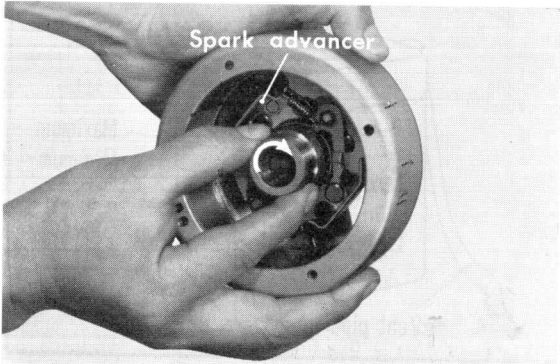

Figure 5-15. Inspecting spark advancer
- (1) The check of the spark advancer operation may be performed on the engine with a timing light. When checking a removed unit, spread the counterweights apart with the fingers and if the weights return to the normal position smoothly when released, the advancer is operating satisfactorily. (Fig. 5-15)
- (2) Check for broken spring.